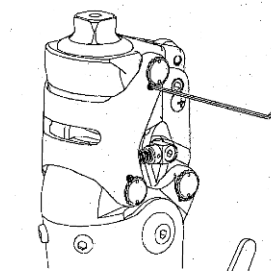

Fig. 4
b) Remove the clamping screw using a 1,5 mm hex wrench (Fig. 4).